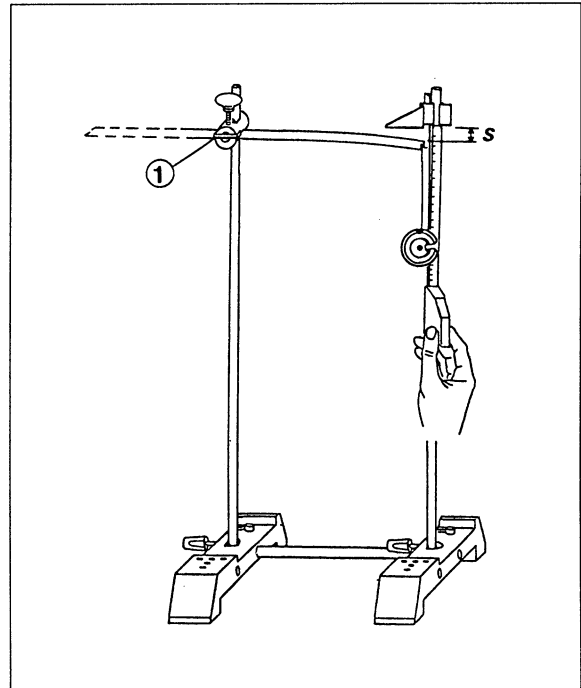

Fig. 1 Setup for testing a leaf spring's deflection
1. Fig. 1 shows how to set up the apparatus for this experiment. Assemble the apparatus as shown, but do not attach the weight immediately.
5. Measure the leaf spring's deflection s (► fig. 1) every time you add a weight, where n (the number of weights) = 1, 2, 3, 4.